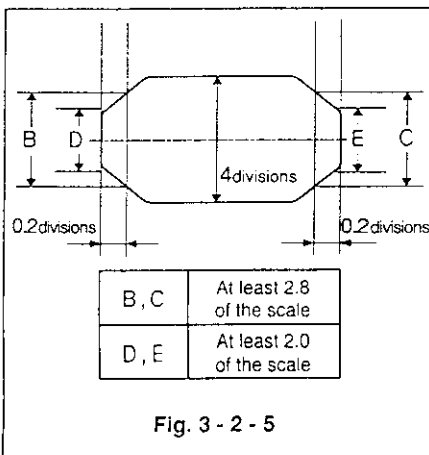

Fig. 3-2-5
- 4 Adjust tracking so that the peak value of the FM waveform is 4 divisions. Check if the FM waveform B, C, D, and E are within the specified values shown in Fig. 3-2-5.